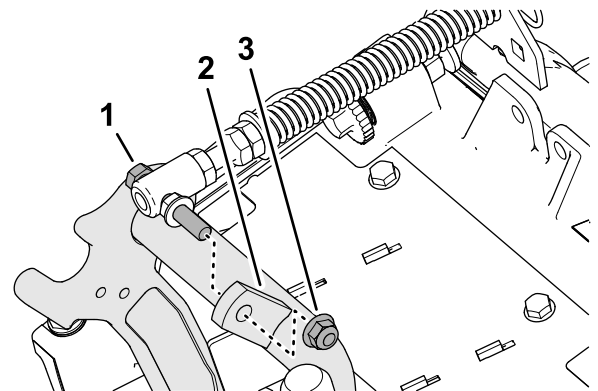

Figure 8
3. Remove the flange locknut (3/8 inch) that secures the capscrew of the turf compensation spring to the right tab of the carrier frame, and remove the compensation spring from the cutting unit (Figure 8).